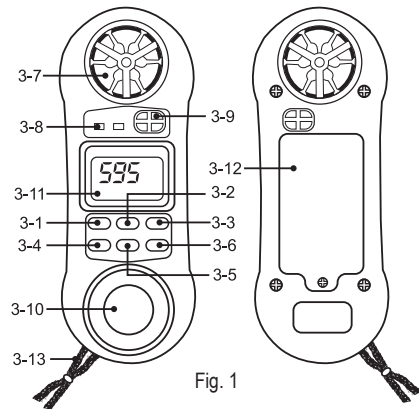

Fig. 1
- 1) Power on the instrument by pressing the "Power Button" (3-1, Fig. 1).
- 2) Select the Anemometer function by pressing "Function Button" (3-6, Fig. 1).
- 3) Press the "Unit/Zero Button" (3-4, Fig. 1) to select unit that you want and then face the "Air Flow Sensor" (3-7, Fig. 1) to the source of wind.
- 2) Plug a type-K thermocouple probe in the "Thermocouple Input Socket" (3-8, Fig. 1).
- 3) Select the Temperature function by pressing "Function Button" (3-6, Fig. 1).
- 2) Select the Relative Humidity function by pressing "Function Button" (3-6, Fig. 1).
- 2) Select the Light Measurement function by pressing the "Function Button" (3-6, Fig. 1) until the light value is displayed. The light display digits are oriented 180° from the other function displays for easy exposure and output reading of the light sensor.
- 3) Press the "Lux/Fc Button" (3-5, Fig. 1) to select measuring unit "Lux" or "Fc".
- * For best results zero the light sensor prior to use in a dark environment. Placing the light sensor end of the meter under a desktop or flat surface so as to block any light can accomplish this. Then press the "Unit/Zero Button" (3-4, Fig. 1) to set the meter indication to zero.
Whenever press the "Hold Button (3-2, Fig. 1)" will freeze the current reading value with a "HOLD" symbol on the display.
- 1) The Data Record function records & displays the maximum and minimum reading values. Start the Data Record function by pressing the "Max./Min. Button" (3-3, Fig. 1) once. There will be a "REC" symbol on the display.
- (a) Press the "Max./Min. Button" (3-3, Fig. 1) once and the Max symbol along with the maximum value will appear on the display.
- (d) Clear the Max./Min. value recorded by pressing the "Hold Button" (3-2, Fig. 1) once. Previous recorded Max./Min. value will be given up and then revert to the REC. function keep on recording.
- 2) Open the "Battery Compartment / Cover" (3-12, Fig. 1) and remove the battery.